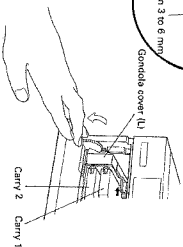

Fig. 1
- Open the front door by hand and make sure that the gap between the front edge of the gondola cover (L) and the top edges of carries 1 and 2 are within 3 to 6 mm. (Fig. 1)